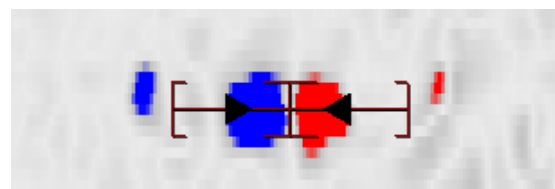

Figure 17. Length arrows on the Lg C-scan
- ii) The start and/or end of a crack. The start/stop position might not be correct for intermittent cracking but also cracking occurring at the edge of the scan. The gray arrows on the C-scans will move as these parameters are adjusted (Figure 17).